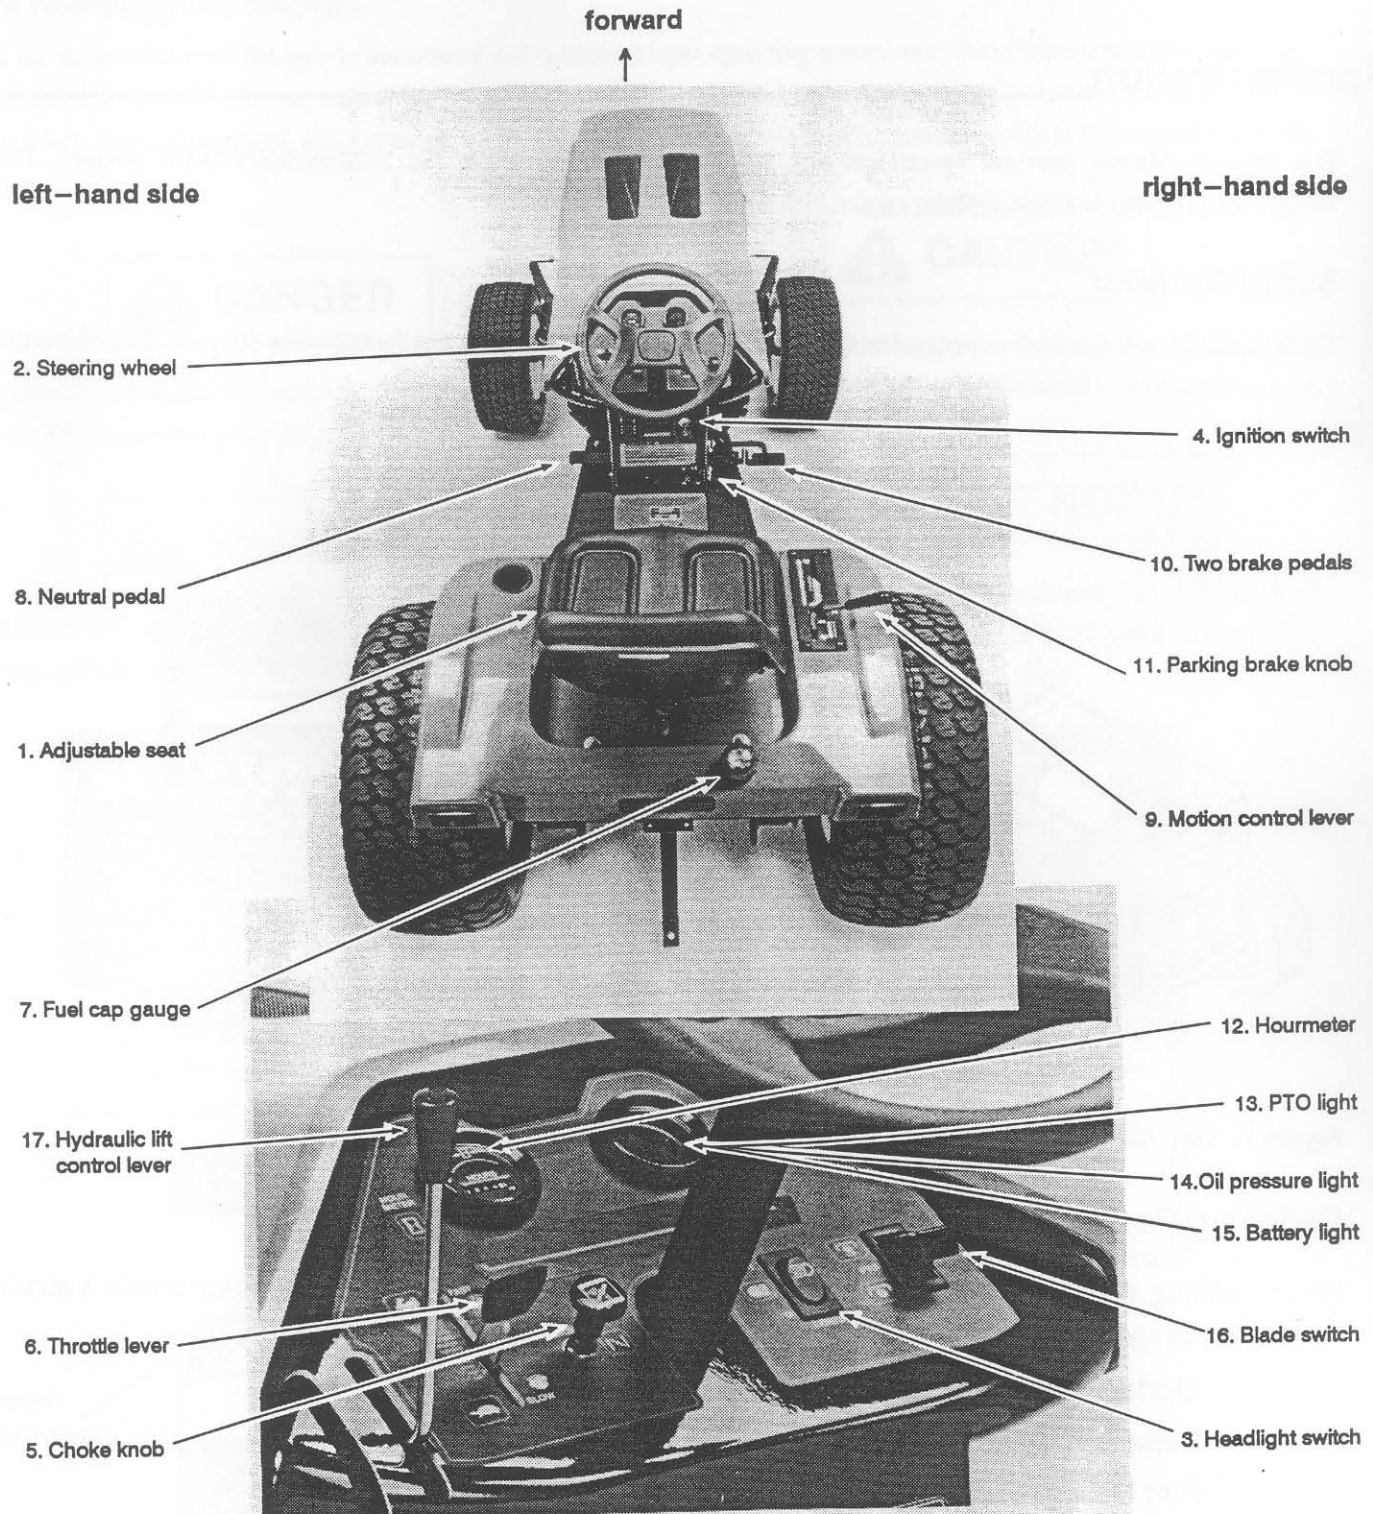

Figure 2. Operator controls.
The tractor controls and gauges are shown in Figures 2 through 8 and described as follows. Locate these controls on your tractor and know how to use them before operating the tractor.
1. **ADJUSTABLE SEAT** – moves forward or back, up to 3" (Refer to Figure 2).
2. **STEERING WHEEL** – controls the front wheels of the tractor for steering (Refer to Figure 2).
3. **HEADLIGHT SWITCH** – controls the tractor's headlights (Refer to Figure 2).
4. **IGNITION SWITCH** – starts and stops the engine. This is a 3-position, key-actuated switch (Refer to Figures 2 & 3).
5. **CHOKE KNOB** – provides richer fuel-air mixture in the engine's carburetor for cold starting (Refer to Figure 2).
6. **THROTTLE LEVER** – controls the engine speed (Refer to Figure 2).
7. **FUEL CAP and GAUGE** – shows fuel level and unscrews for dispensing of fuel into tank (Refer to Figures 2 & 4). Use only unleaded, minimum octane 87 gasoline.
8. **NEUTRAL PEDAL** – puts the tractor in neutral. Fully depress the pedal to put the transmission (and speed & direction control lever) in neutral, slowing the tractor (Refer to Figures 2 & 5 and refer to "Tractor Operation" starting on page 10 in this manual).
9. **MOTION CONTROL LEVER** – hand operated to control the direction (forward/reverse) and speed of the tractor (Refer to Figures 2 & 6).
10. **TWO BRAKE PEDALS** – control the brakes. The pedals are located on the right-hand side of the tractor. The **LEFT PEDAL** controls the left wheel the **RIGHT PEDAL** controls the right right wheel (Refer to Figures 2 & 6).
11. **PARKING BRAKE KNOB** – latches the brake to lock the rear wheels. It is located on the right-hand side of the console (Refer to Figures 2 & 6).
12. **HOURLMETER** – tells number of hours the tractor has operated. (Refer to Figures 2 & 7). It runs when ignition switch is “ON.” Do not leave ignition “ON” when engine is not running. Use hourmeter as a guide for when to do scheduled maintenance.
13. **PTO LIGHT** – illuminates when (optional) PTO is engaged. (Refer to Figures 2 & 7).
14. **OIL PRESSURE LIGHT** – signals low oil pressure when lit. (Refer to Figures 2 & 7). It illuminates momentarily when the ignition switch is “ON”, but the engine is not running (e.g., during starting sequence).
15. **BATTERY LIGHT** – illuminates when battery is discharging. (Refer to Figures 2 & 7). It lights momentarily during starting sequence. It should be off when the engine is running above idle. If not, shut engine off and refer to “Troubleshooting” on page 15 in this manual.
16. BLADE SWITCH – starts and stops the electric clutch on the front of engine for the power take off (PTO). The electric clutch drives all rotary implements. (Refer to Figures 2 & 8)
17. HYDRAULIC LIFT CONTROL LEVER – controls all attachments. It is linked to a hydraulic control valve. (Refer to Figures 2 & 8)